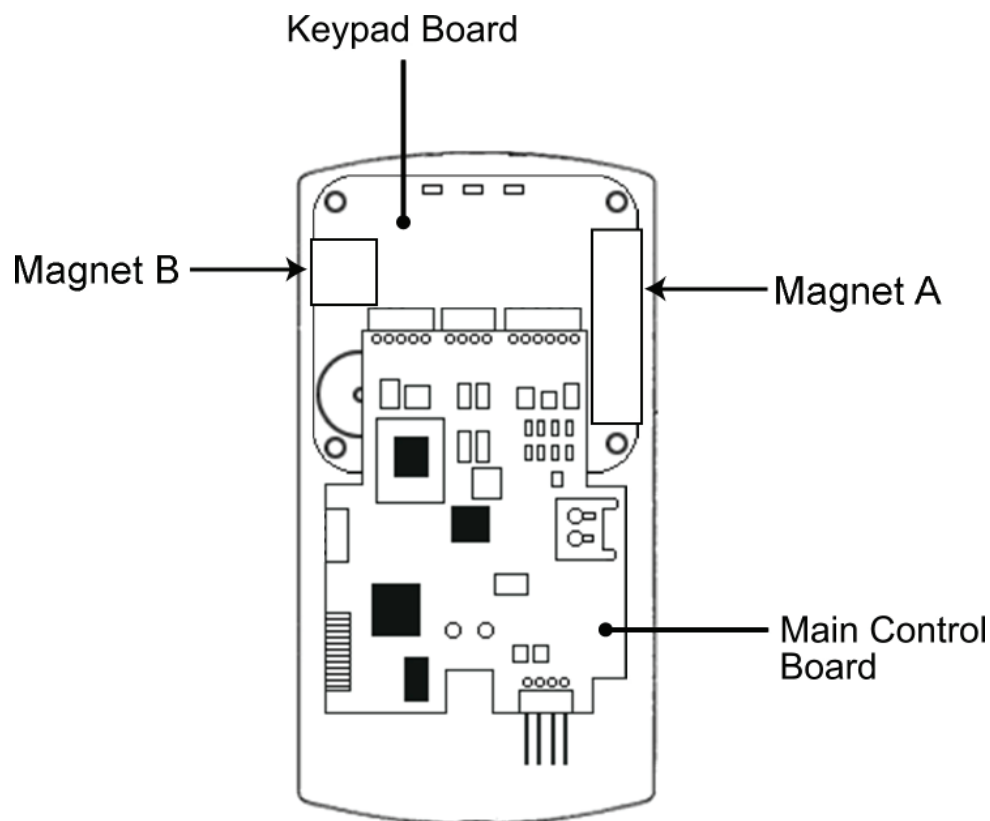

Figure 5: Tamper Switch Locations
- Remove the antenna housing from the keypad/controller by pressing the labeled four secure tabs inward (see Figure 5) until the antenna housing pops out.
2. **When handling the main printed circuit board, to guard against possible static discharges, hold the board by its edges with one hand and then touch a grounded object before touching the prox.pad unit.** Remove the main printed circuit board by pressing the two spring tabs in the direction of the arrows as shown in Figure 5. Be careful with the wires.